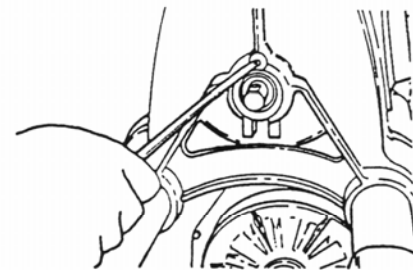

Fig. 20
3. Loosen the tension on the Poly V-belt. With a 1/4" Allen wrench, remove the hex socket capscrew, lock washer, and square nut under the idler shaft See Fig. 19. This hex socket capscrew secures the eccentric bushing in the headstock. Also remove the pan head screw and washer that keep the bushing and the idler shaft from slipping out of the headstock See Fig. 20.